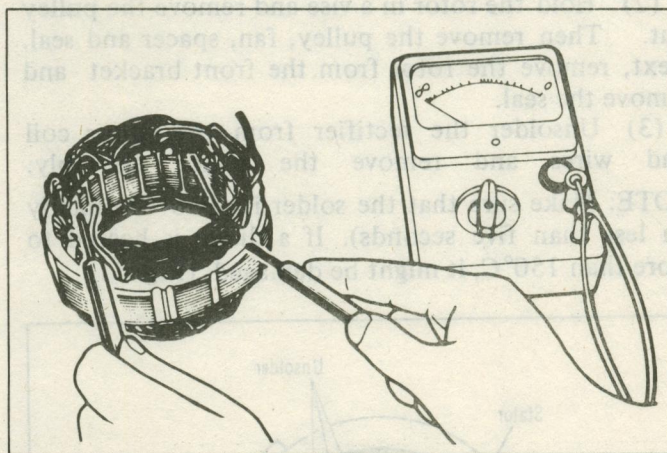

Fig. 57 Stator Coil Ground Test
(2) Check for an open circuit between the stator coil leads and the stator core. (Fig. 57)